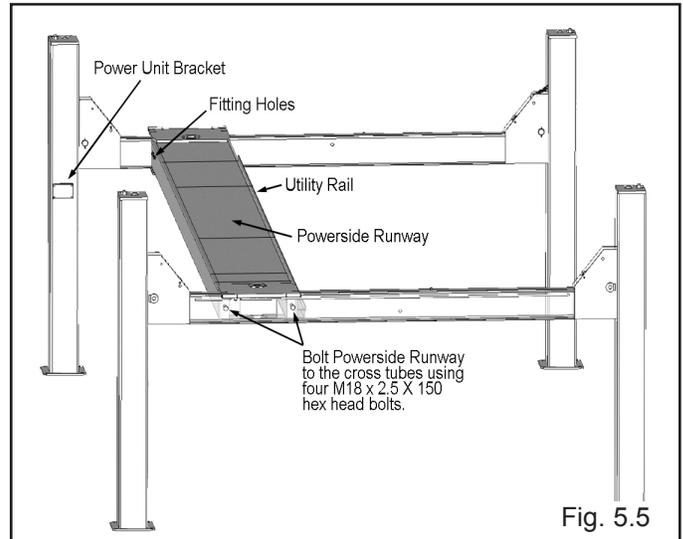

Fig. 5.5
4. Position the POWERSIDE RUNWAY on top of the Cross Tubes with the UTILITY RAIL towards the center. The fitting holes located at the side of the Powerside Runway should be adjacent the POWER UNIT COLUMN. Align the holes in the Runway with the holes on the Cross Tubes and bolt together (torque to 35-45 Ft/lbs) using four M18 x 2.5 hex bolts and washers. (See Fig. 5.5)